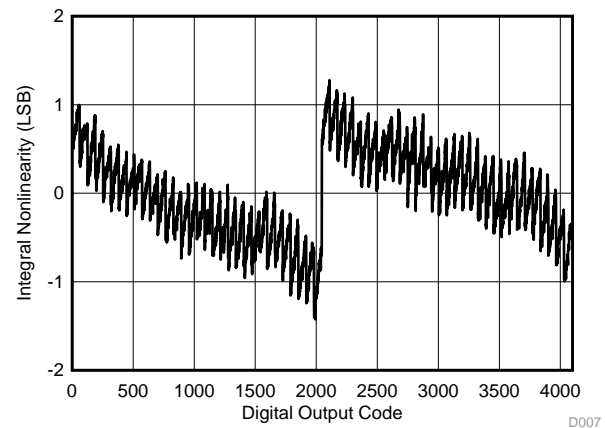

Figure 5-6. SoC ADC, Integral Nonlinearity vs Digital Output Code
(4) For a typical example, see Figure 5-6.
(5) Applied voltage must be within Absolute Maximum Ratings (see Section 5.1) at all times.